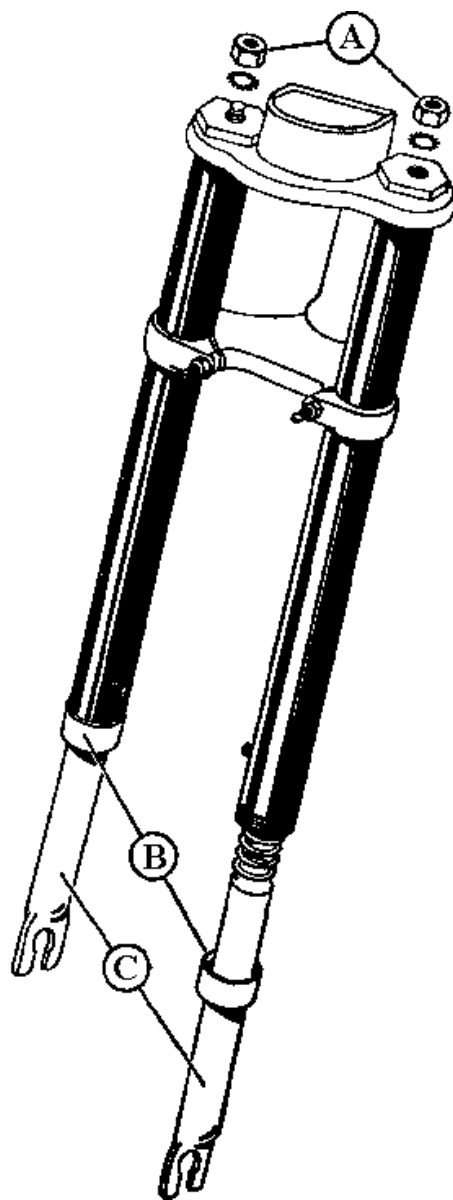

Fig. D25.
Free the top end of the telescopic gaiters from the oil seal holders (B) Fig. D25, and slide the gaiters down the lower tubes. Remove the locking clips engaging in the top groove of the oil seal holders, which can then be unscrewed. On early models these clips are secured by the mudguard stay studs and later by the grease nipples which are screwed into the outer fork tube. Very early D1 models have no locking clips and the fork bushes on these models are non-detachable.
Remove the two small nuts (A) Fig. D25, from the top of the two large nuts in the top yoke. On D3 and C10L models the small domed caps must first be removed. They should be levered up with the tang of a file inserted in the small hole in the edge of the dome. The sliding members complete with their springs can then be withdrawn from the bottom of the fixed tubes.
Place the upper bushes in the outer tubes and push them up as far as they will go with the aid of the distance tube. Line up the holes in the distance tubes with the grease nipple holes in the outer tubes and screw in the nipples. Position the telescopic gaiters on the lower tubes together with the oil seal holders and lower fork bushes. Take care that the oil seals are not damaged as they pass over the springs. Grease the springs and sliding members, then pass them up into the outer tubes. Position the lower bushes and screw up the oil seal holders. Secure the upper end of the springs in position by means of the nuts (A) Fig. D25, making sure that the fork ends are correctly positioned to receive the wheel spindle, before tightening the nuts. When the oil seal holders are fully tightened they should be secured by the small locking tabs which engage in the top groove of the holders. Make sure that the curved portion of the tab engages properly in the groove before it is tightened down.